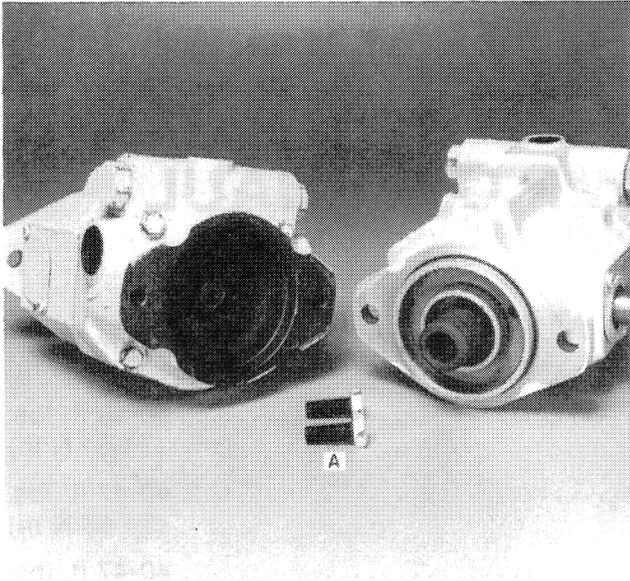
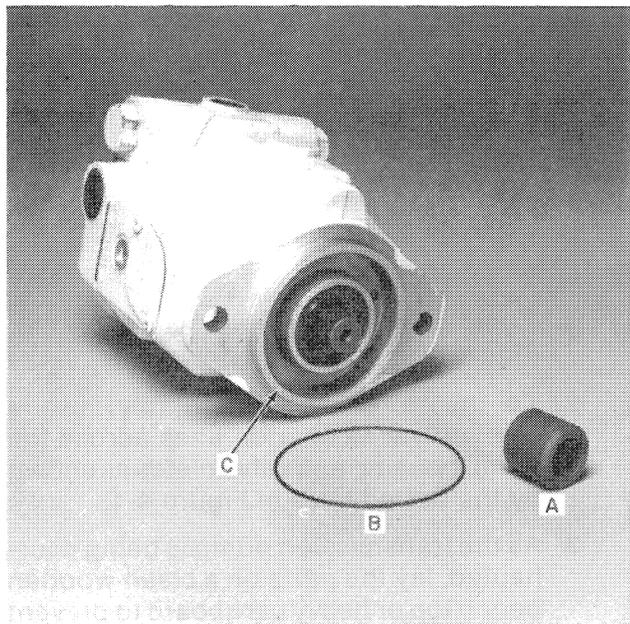

FIGURE 4-2
FIGURE 4-3
4. Remove the two bolts, A, Figure 4-2, and tap the housings with a plastic or rubber mallet to separate the two pumps. The pumps are coupled with coupler, A, Figure 4-3, which will remain on one of the splined shafts. The O-ring, B, Figure 4-3, fits over flange, C, and should be replaced on reassembly.